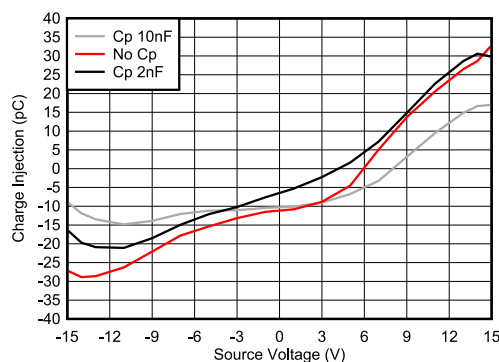

图 8-2. Charge Injection Compensation
The TMUX7219M contains specialized architecture to reduce charge injection on the source (Sx). To further reduce charge injection in a sensitive application, a compensation capacitor ( $C_p$ ) can be added on the drain (D). This will ensure that excess charge from the switch transition will be pushed into the compensation capacitor on the drain (D) instead of the source (Sx). As a general rule,  $C_p$  should be 20× larger than the equivalent load capacitance on the source (Sx). 图 8-2 shows charge injection variation with source voltage with different compensation capacitors on the drain side.